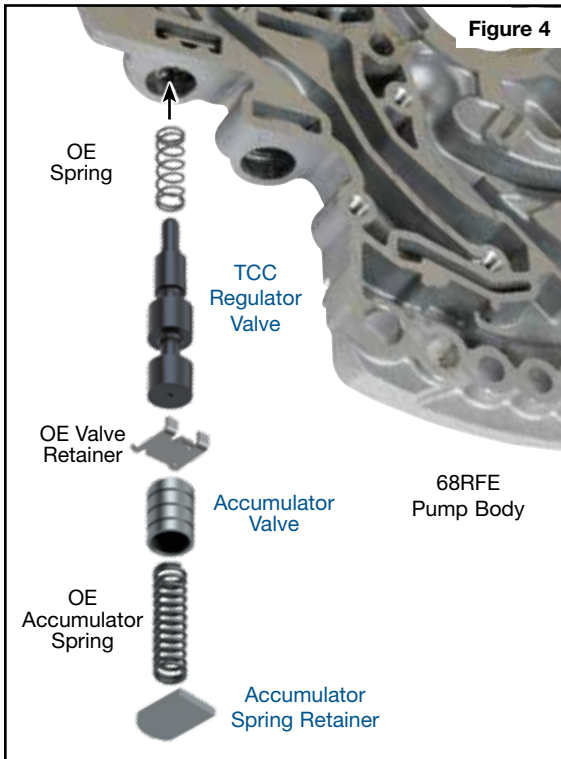

Figure 4
- Reinstall OE TCC regulator spring, followed by Sonnax TCC regulator valve and the OE retainer (**Figure 4**).